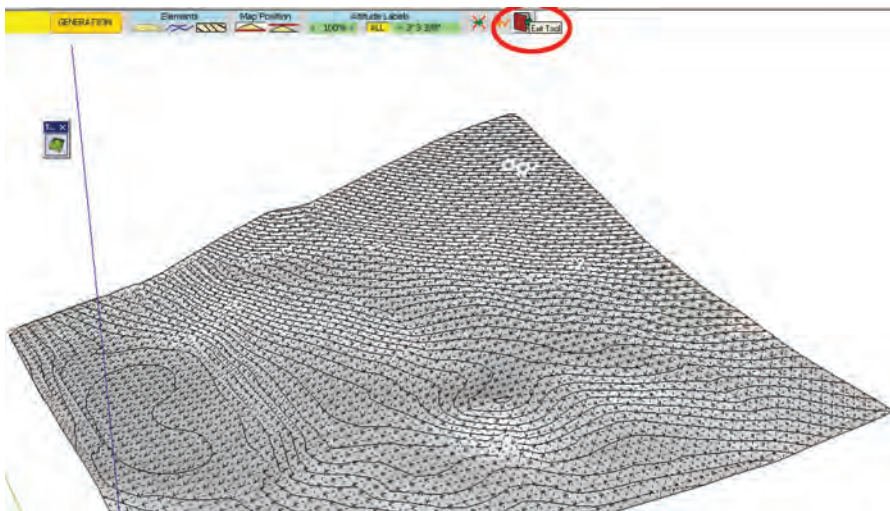

Fig. 15-9: The completed mesh
4. Select the Exit Tool button at the top right. The mesh is completed (Fig. 15-9).